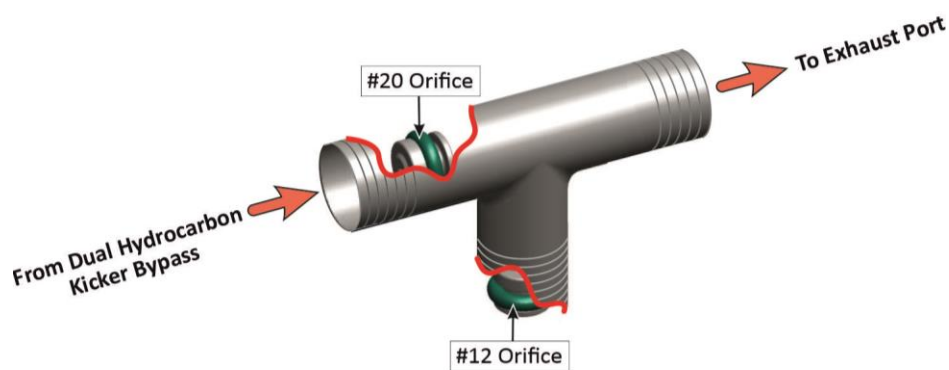

Figure 144 – Orifice Location
8. Refer to Figure 144. Replace the orifice(s) in the correct part of the Tee fitting (#12 in the bottom of the tee fitting and #20 in the side).